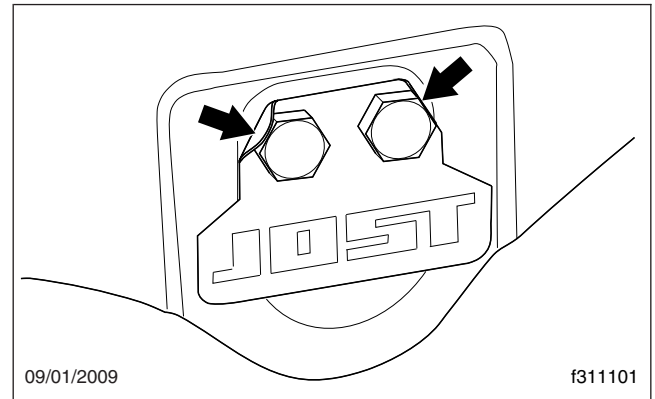

Fig. 8, Bracket Pin Bolt Locking Tabs
4. Inspect the bracket pin bolts. Make sure the locking tabs are properly securing the bolts in place. See Fig. 8.